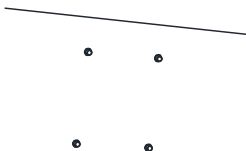

Figure 2-39 Drill Screw Holes
1. Drill screw holes on the wall according to the dimensions of wall-mounted camera and insert four M6 expansion screws into the screw holes, as shown in Figure 2-39.